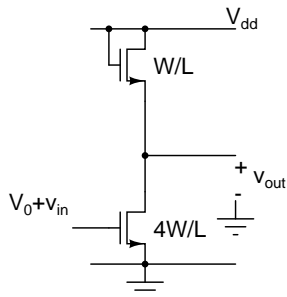

Figure 2: Problem 2
2. Calculate V_{out} in Fig. 2. Comment. (Assume that all transistors are in the saturation region)